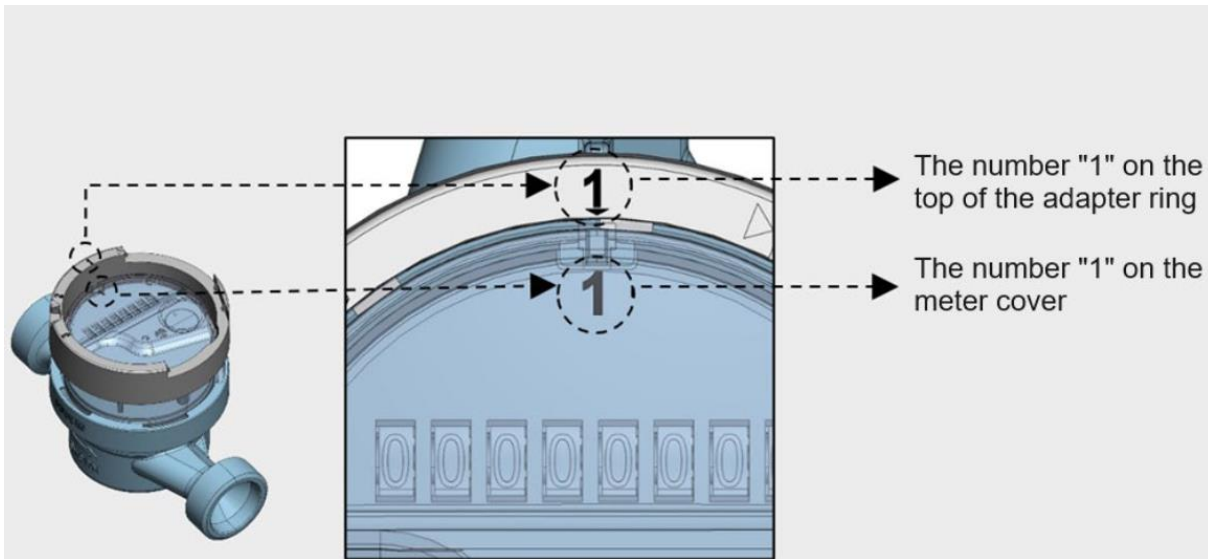

Figure 9: Positioning the intermediate ring on the counter guard
- Installation of the pre-assembled intermediate ring + locking the set on the counter guard should start by positioning the digit "1" on the intermediate ring in relation to the digit "1" on the counter guard, as shown in Fig. 9.